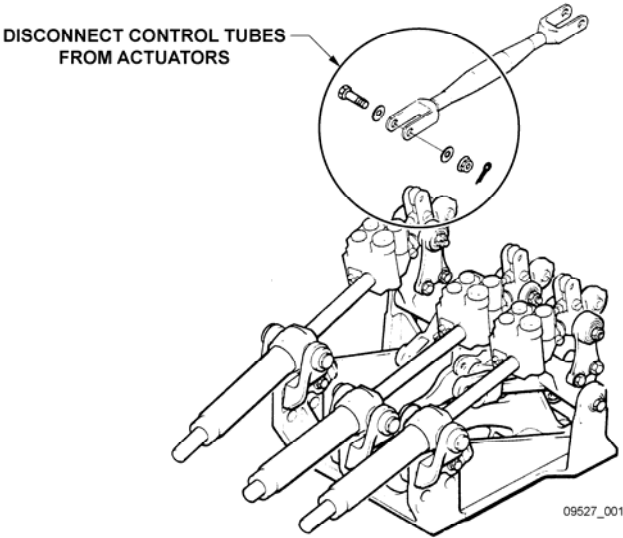

Figure 1
2. Disconnect control tube from each hydraulic actuator. Protect control tubes from damage. Refer to Figure 1.